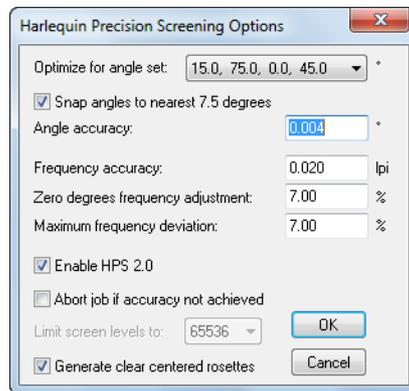

Figure 6.6 Harlequin Precision Screening Options dialog box
- * When using HPS, the RIP produces the number of gray levels required to attain the specified accuracy of screening, as set in the HPS Options dialog box, shown in Figure 6.6, page 176.